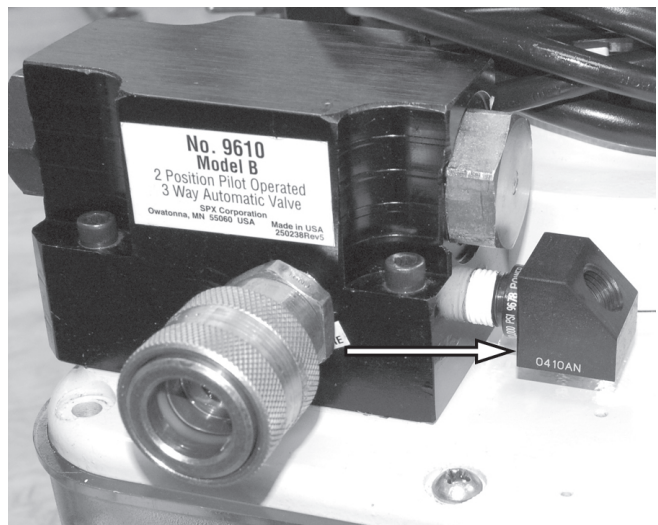

Figure 5. Elbow Installed
2. See Figure 5. Install sealant tape or non hardening sealer to a 45 degree elbow (PN 9678). Install the elbow in gauge port as shown.